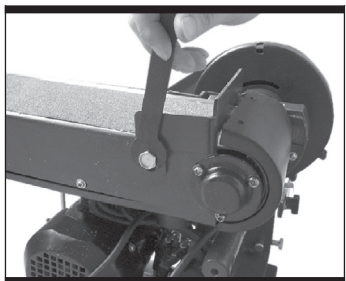

Fig 10-2
- 1) Loosen and remove the head screw and the washer as shown in Fig 10-2&10-2.